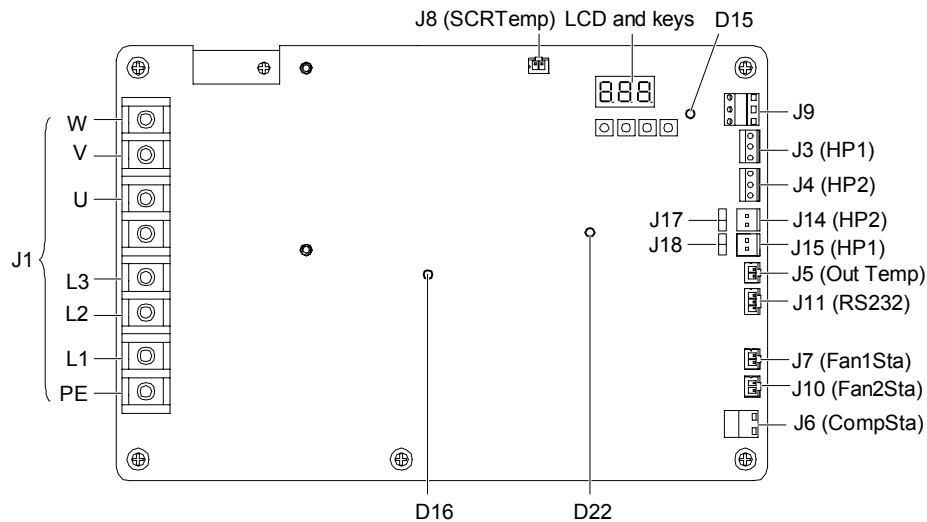
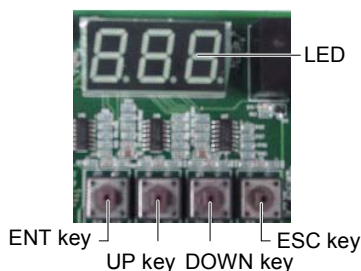

Figure 3-2 Layout of wiring terminals
Figure 3-3 Keys and LED
The wiring terminals are located on the fan speed controller board. Their distributions are shown in Figure 3-2 and the definitions are listed in Table 3-2. Refer to *Appendix 2 Circuit Diagram* for connections.
Note : J8 (SCRTemp) in Figure 3-2 is a reserved device interface on fan speed controller board. Do not use it
The fan speed controller board provides three indicators (see Figure 3-2). See Table 3-3 for their functions.
The RS232 serial port (see J11 in Figure 3-2) is a port to connect the background computer using factory-defined protocol. It is used for factory commissioning and maintenance.
The keys and LED are located on the upper right corner of the fan speed controller board, as shown in Figure 3-2. The appearance is shown in Figure 3-3.
2. The jumper caps of the J17 and J18 terminals (see Figure 3-2) used to configure the current pressure sensor are not installed correctly.